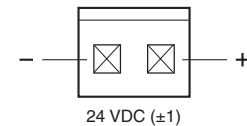

Figure 3:
1. Use a Molex 26-03-4020 shell and 08-58-0111 contacts with 22 awg stranded wire to supply 24 volt current (3 amps recommended) to the connector marked J1. (See **Figure 3**.) The motor can draw as much as 2.5 amps during movement so make sure there is adequate power available, and do not share power with other sensitive circuits.